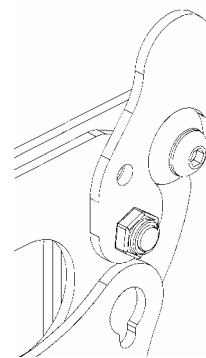

Figure 6
7. Raise the latching flag on the quick release bracket, locking small flat panel display in place (see Figure 6).